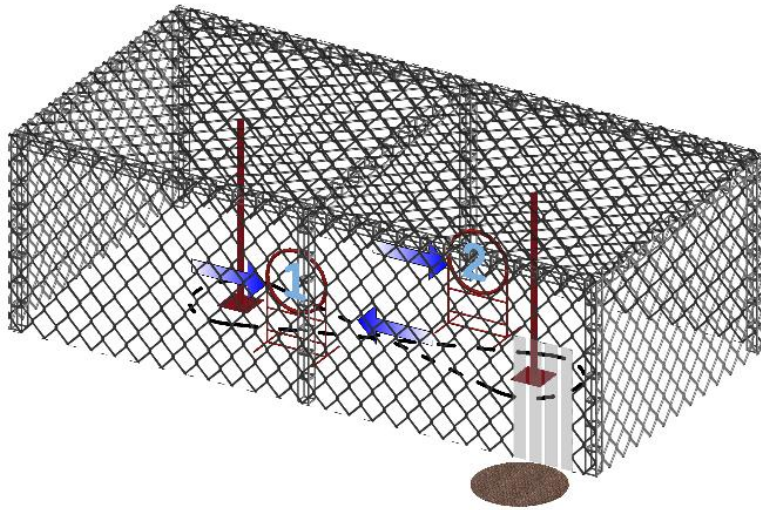

Figure 3: 3D Field Schematic
- C. As shown in Figure 3, the 3D field schematic, two circles (diameter 1-1.2m, bottom height 0.5m-1m) will be placed at positions 1 and 2 as obstacles for the remote control race. The robot must follow the designated route, passing through circle 1 first, then circle 2, to complete the figure-8 flight. Obstacle dimensions will be announced on-site.